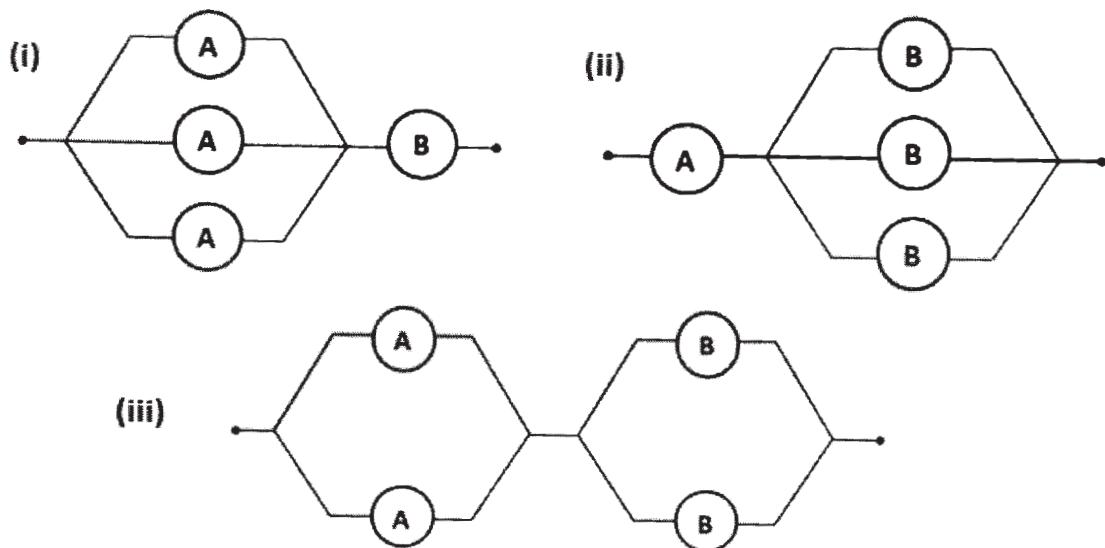

Fig. 2 Different configurations of sub-systems (i, ii and iii)
- b) A system S consists of sub-systems of A and B, each having reliability 'p'. In order to improve the reliability of the system, following three configurations of sub-systems are suggested as shown in Fig. 2. Obtain the reliability of each sub-system and determine amongst three which configuration has the highest reliability? Assume that the elements are independent. [6]